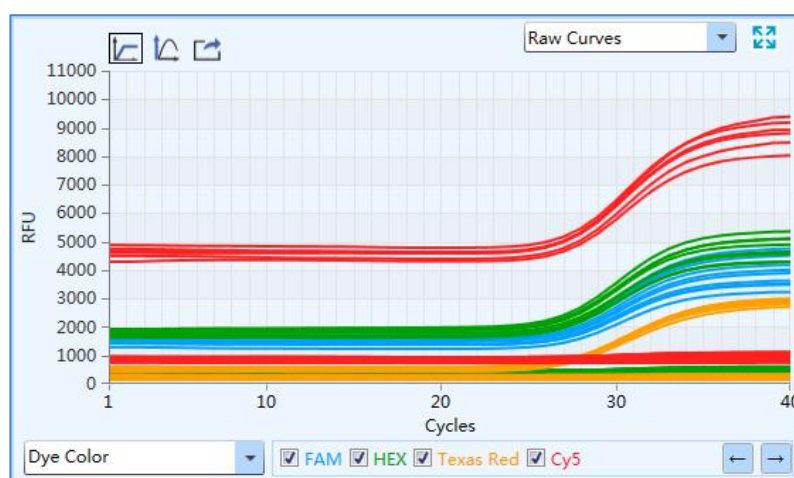

Figure D-9.5 Abs Quant analysis interface - Raw Curves functional module
- V. Raw Curves:** display the diagram of raw amplification curves without subtract baseline, as shown in figure D-9.5. The parameters and function keys of raw curves functional module are same with those of amplification curves functional module.